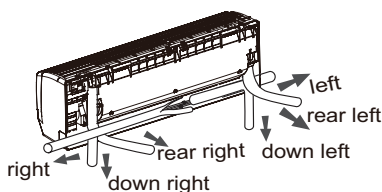

Fig.3
(1) The pipe can be led out in the direction of right, rear right, left, rear left, down right or down left. (As show in Fig.3)